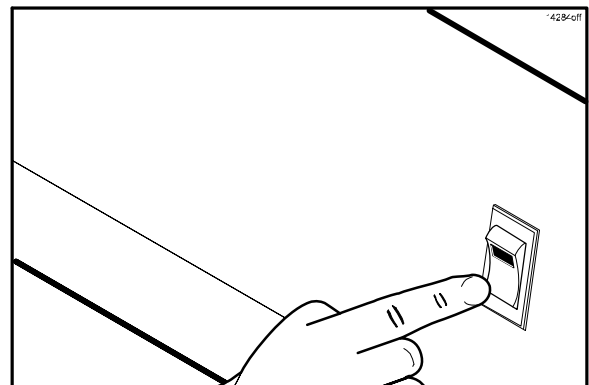

Figure 69
47. Place the fan interlock switch in the OFF position. (See Figure 69.)